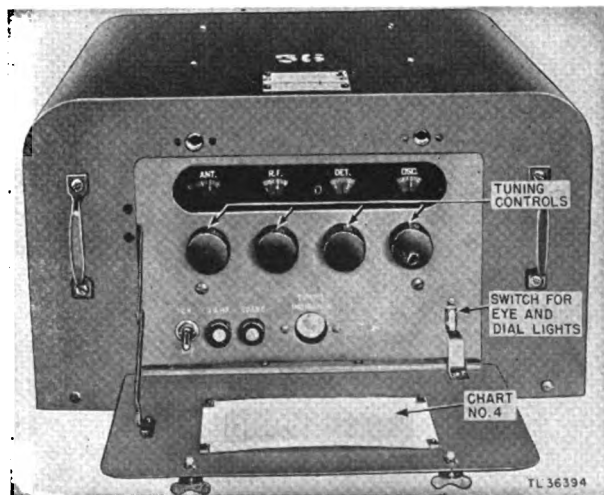

Figure 13. Receiver BC-1068-A, front panel.
c. The controls in the receiver used with the RC-148 and RC-148-B are illustrated in figure 13. There are four tuning controls labelled ANT., R. F., DET. and OSC., an associated tuning eye indicator, an ON-OFF toggle switch, one 3-ampere fuse, and one spare fuse. There is also a panel light switch that is operated by the hinged door covering the front panel. On the inside of this hinged door, there is the chart used when tuning the receiver.